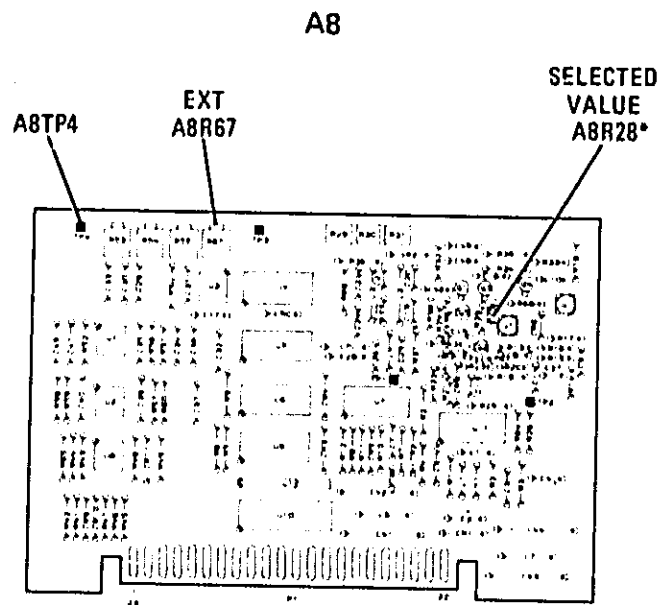

Figure 5-40. External Marker Adjustments Location
3. If no marker is observed on the 8755C, adjust A8R67 (EXT) control (Figure 5-40) until a marker appears on the screen. If the marker does not appear, go to step 4.